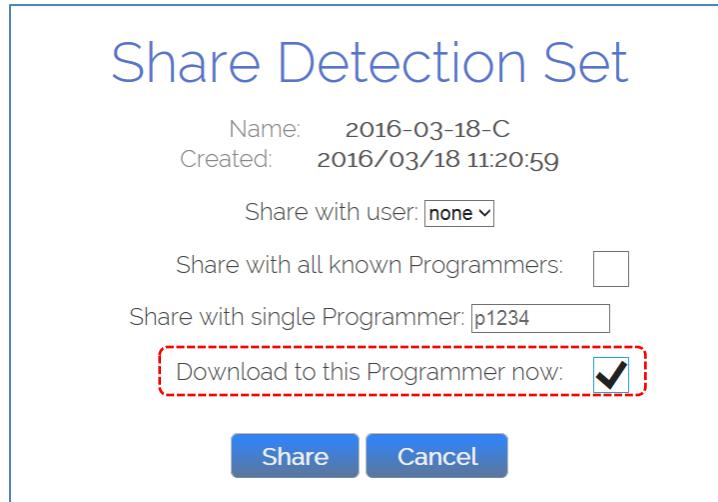

Figure 54 The SHARE DETECTION SET dialog with download now option selected
- You can select up to two bursts to be delivered in response to any event detector, as depicted in **Figure 54**.